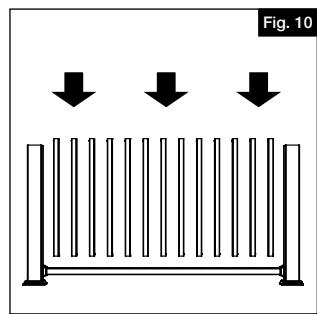

Fig. 10
- Push all balusters into bottom rail (Fig. 10).